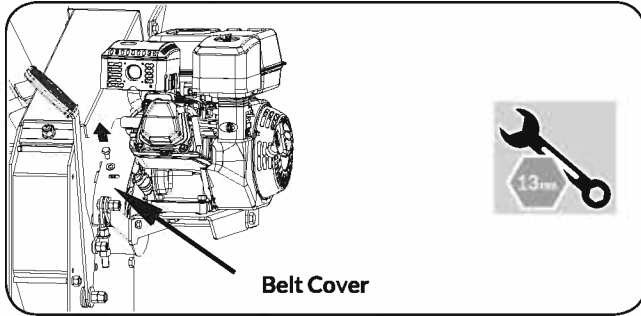

Figure 22
- Remove the top belt guard from the front housing by taking off the fixing bolts. (See **Figure 22**)